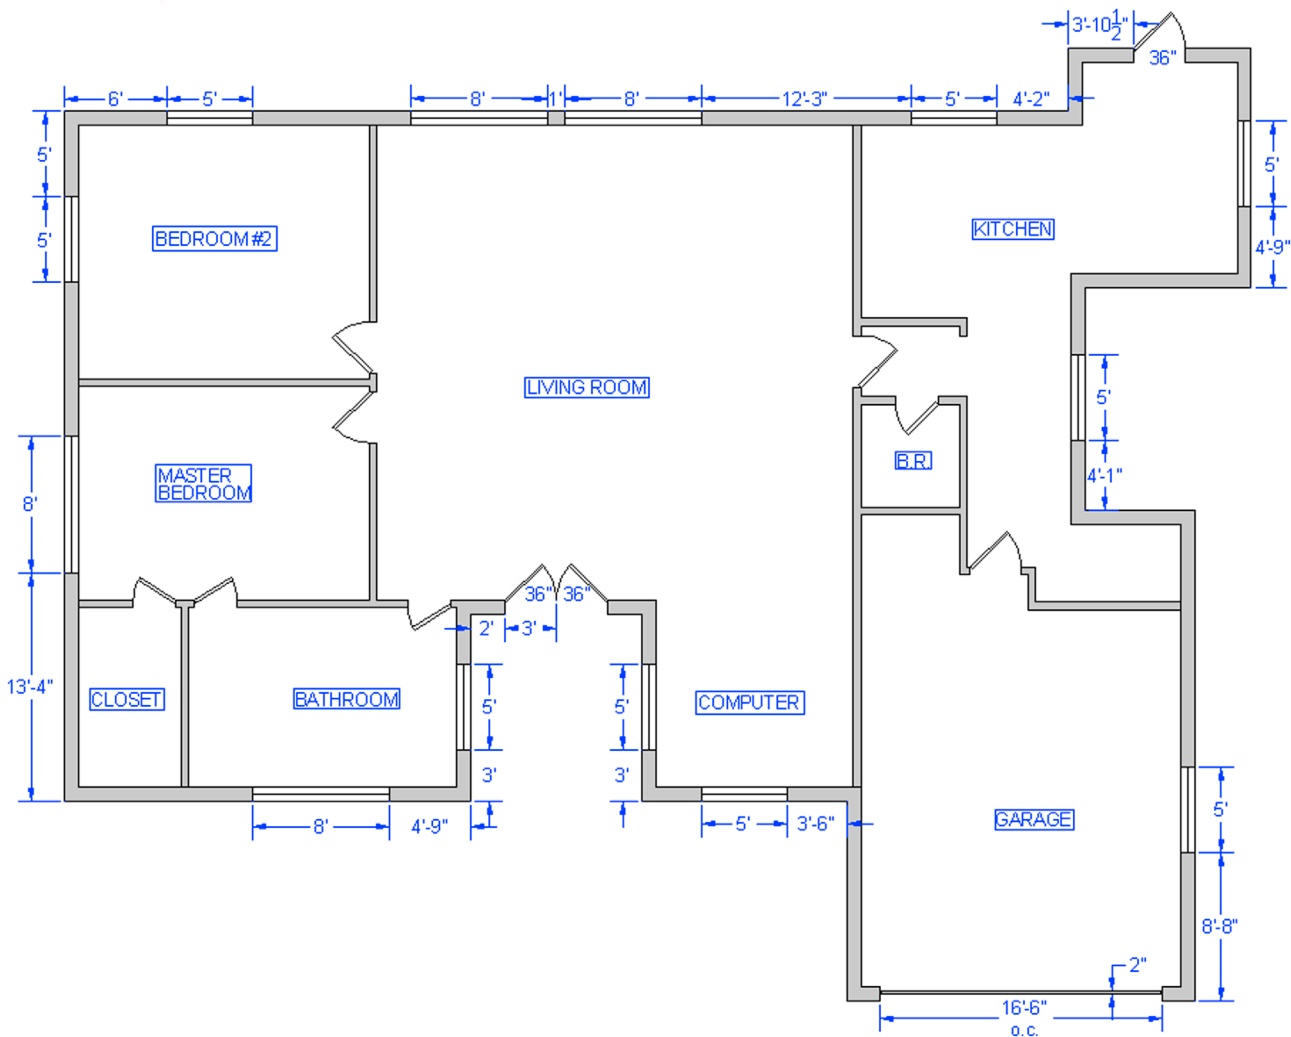

FIGURE 12.11 Exterior windows and doors.
Step 2. Add in the exterior windows and all doors. Be sure to follow the layering guidelines carefully. Make all windows and doors blocks for convenience. The exterior dimensions are shown in Fig. 12.11. Note that the deck and deck hatching is frozen, as it is not relevant to the new material you are adding.